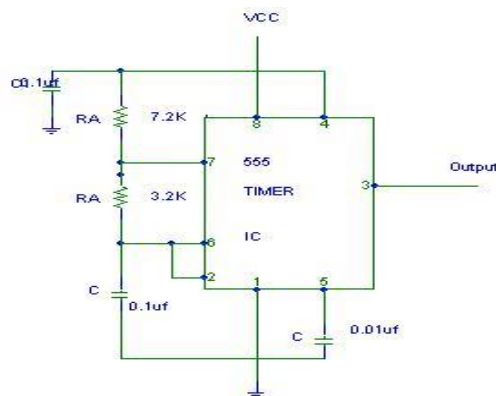

Fig. 6.1: Astable Multivibrator using IC 555
1. The connections are made as per the circuit diagram shown in Fig. 6.1.